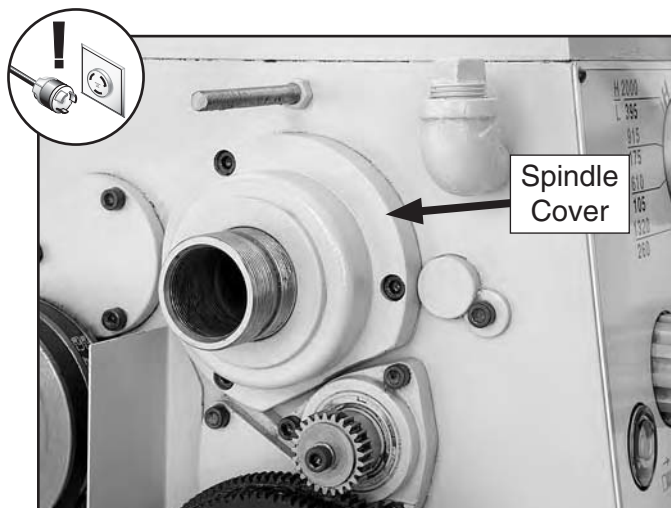

Figure 141. Outboard spindle cover (viewed with headstock left cover removed).
3. Remove the headstock left cover to access the outboard spindle cover (see **Figure 141**).